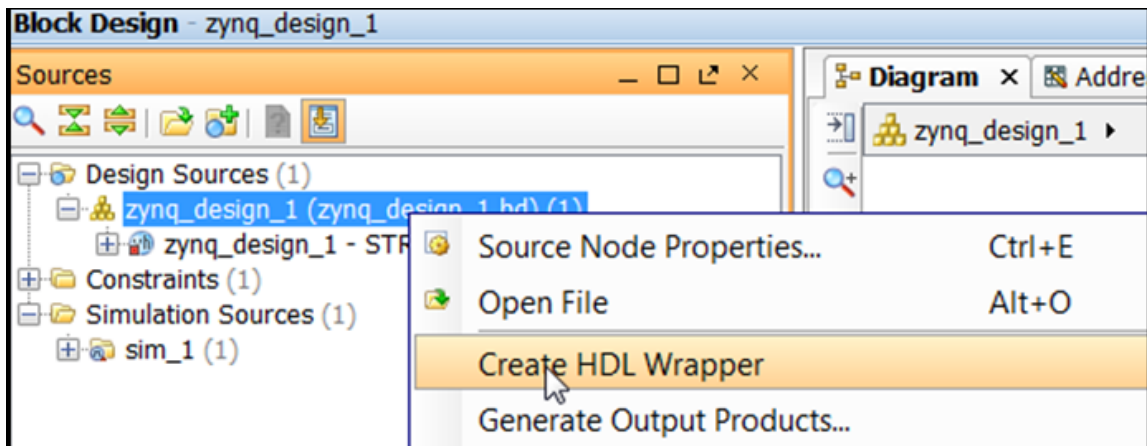

Figure 27: Create HDL Wrapper
2. In the Sources window, select the top-level subsystem source, and select **Create HDL Wrapper** to create an example top level HDL file (Figure 27).